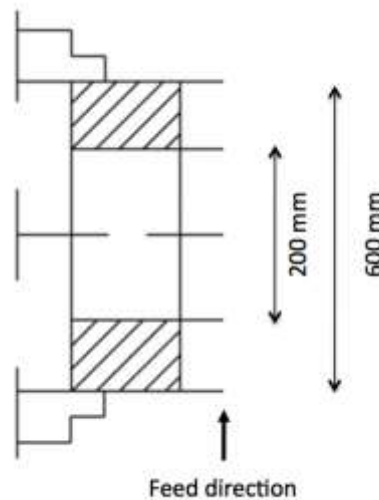

Fig. 1
- (d) A steel ring shown in Fig.1, of outside diameter 600 mm and internal diameter 200 mm, is being face machined on a vertical CNC lathe. The machine is capable of maintaining a constant cutting velocity and the feed rate is set to 0.25 mm/rev. Using Taylor's empirical tool life relationship, determine the number of components that can be machined per tool for a tool life of 50 min. From initial tests, when $V = 50$ m/min, tool life $T = 60$ min, and constant $n = 0.3$. [40%]